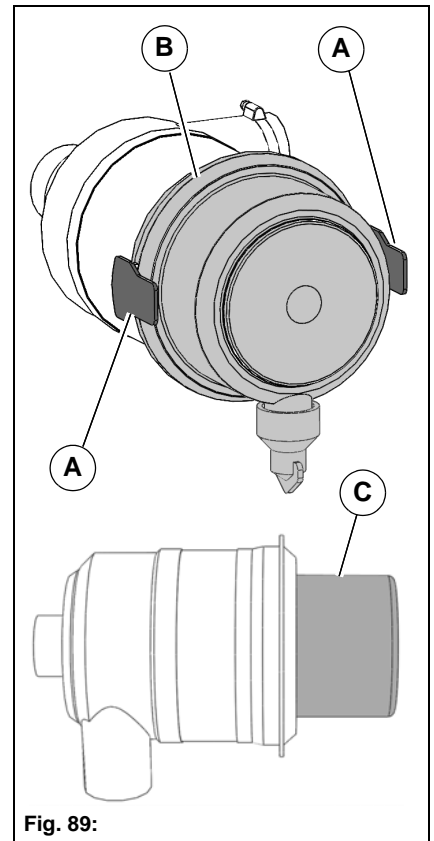

Fig. 89:
Clean the filter insert **Fig. 89-C** as required. Change the filter insert at the latest every 500 operating hours.
2. Unhook the guide rubber **Fig. 89-A** and remove the filter cover **Fig. 89-B**.
3. Remove the filter insert **Fig. 89-C** and clean it from inside to outside carefully with dry compressed air (max. 3 bar) by up and down movements of the compressed air tube.